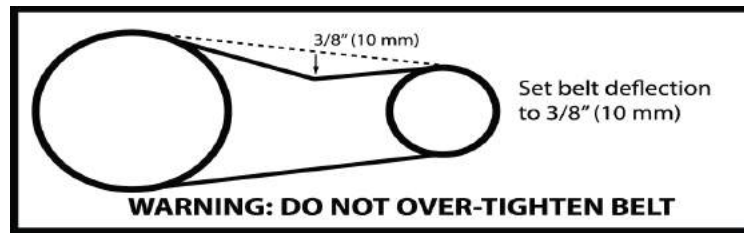

Fig 9
9. Tighten the M10 hex head bolt on the belt tensioner until the belt is snug. DO NOT OVER-TIGHTEN. Too much tension may cause damage to bearings and shaft. Properly tensioned belt should bow/flex by at least 3/8" (10 mm) (Fig 9). Tighten the four M8 hex head bolts to hold the belt tensioner in place.